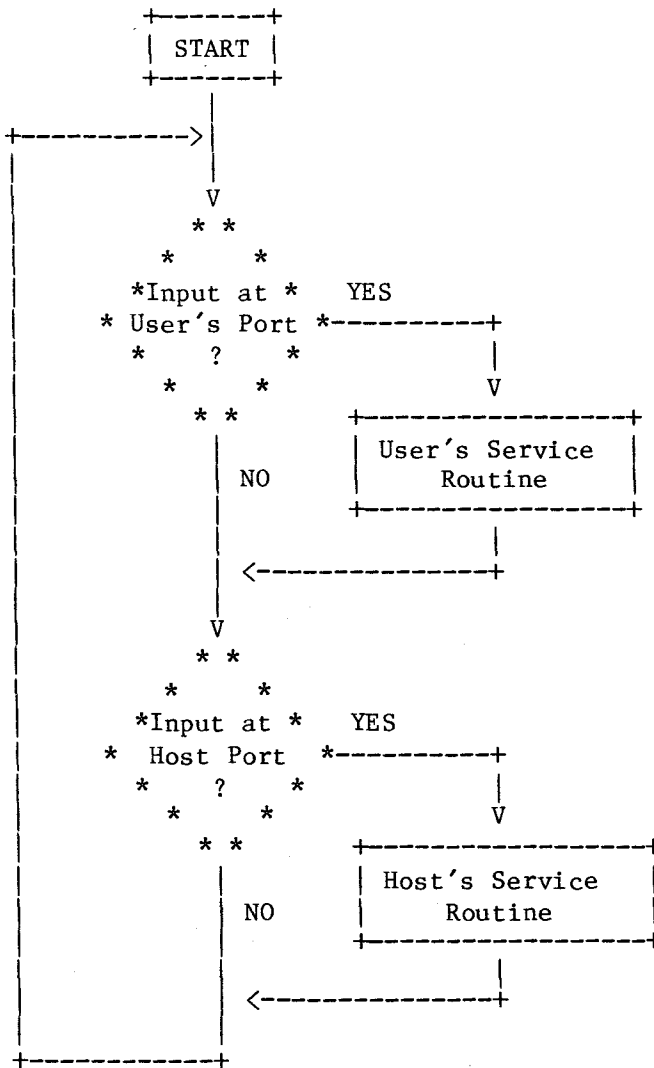

FIGURE 5-2. FLOWCHART OF GENERAL INPUT HANDLING ROUTINE
- * Figure 5-2 illustrates the logic behind the treatment of input from the user's terminal or the host computer system. When characters are entered from the user's terminal they are processed by a service routine.